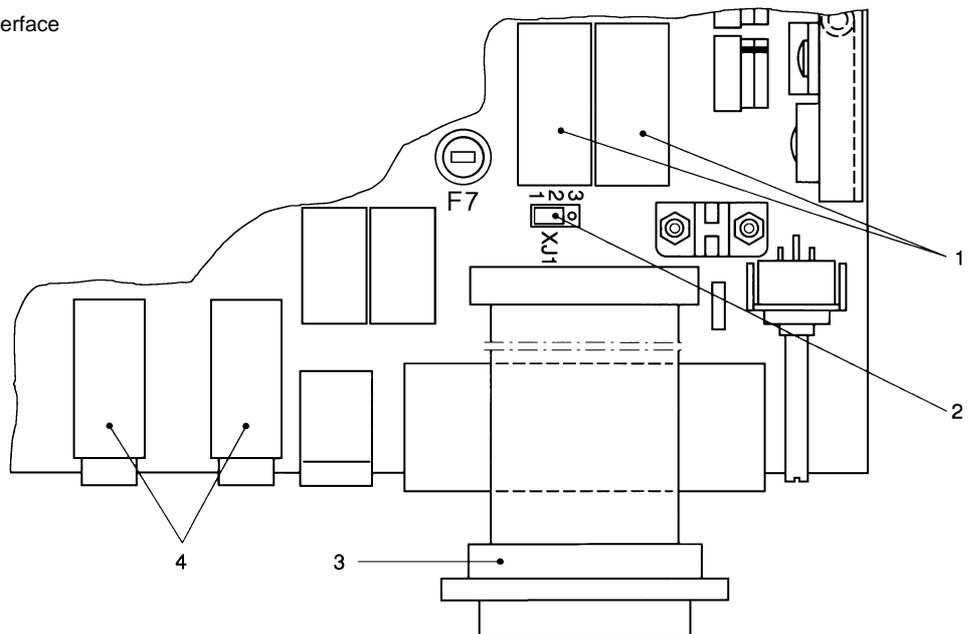

Fig. 14 Position of the jumper for the relay failure;
The reference voltage is protected by the fuse F7. Position of the fuse see fig. 14. For changing the fuse open the TURBOTRONIK as described in section 2.9.
**Key to Fig. 14**